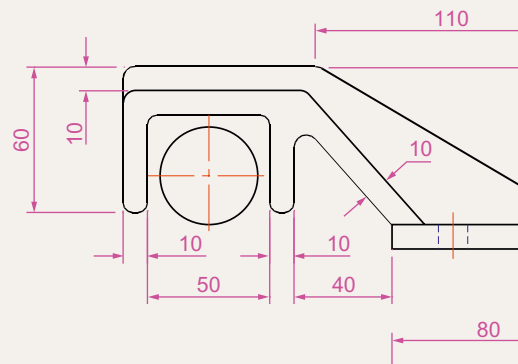

Fig. 8.21 Exercise 2
2. Construct the orthographic projection Fig. 8.21 to the given dimensions with the front view as the sectional view A-A.